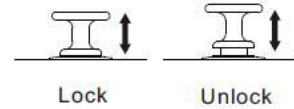

Figure 1
- Pull out the safety lock (shown in figure 1) before opening the door